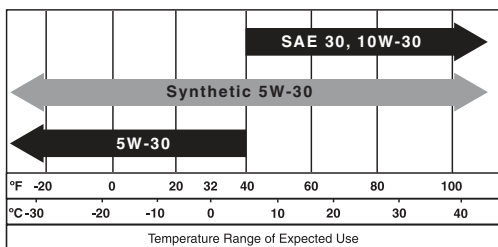

FIGURE 28: Recommended Oil Viscosity
SAE 10W-30 is recommended for general temperature use. Refer to Figure 28 for information on other viscosities that may be used. Other viscosities shown in chart may be used when average temperature in your area is within indicated range.
- ☐ Unused engine oil (SAE type indicated in Figure 28)
13. Pour new (unused) engine oil into oil fill hole using funnel. (See Figure 28 for recommended oil type). Do not overfill.